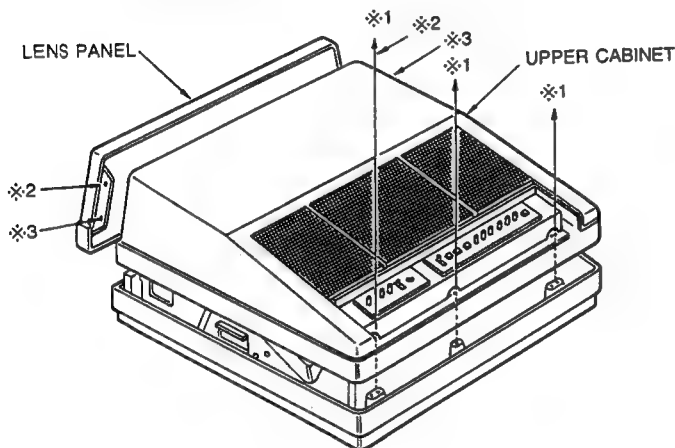

Fig. 39
- (1) Remove the three screws designated "※1" on Fig. 39 and remove the UPPER CABINET.
- (8) Refit the LENS PANEL and tighten its four screws "※ 2" and "※ 3" [Fig. 39]
- (9) After ensuring that a proper picture is displayed, replace the UPPER CABINET and tighten the three screws "※ 1" [Fig. 39]